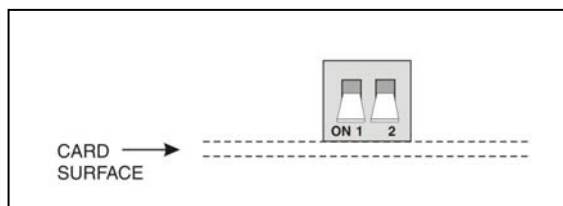

FIGURE 5-6: LAN CARD DIPSWITCH SETTING FOR SERVER MODE
17. Move the #1 switch on the S3 Dipswitch set module to the down (ON) position (FIGURE 5-6). This puts the LAN Controller in Server Mode for normal communication with the PressureMAP system.